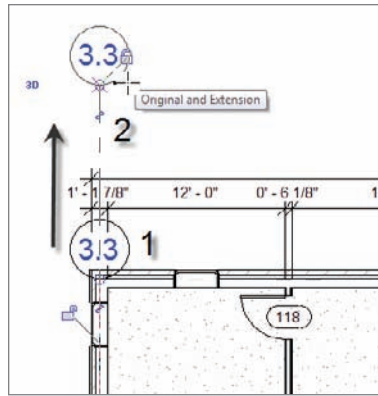

FIGURE 8.15 Dragging the new bubble out of the wall
5. When you pick the wall, the grid is added. It will not be the name or number you want. We will change that. But first, pick the round blue grip and drag the bubble up past the dimensions, as shown in Figure 8.15.